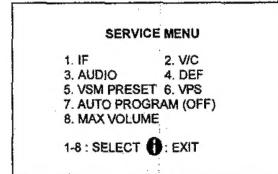
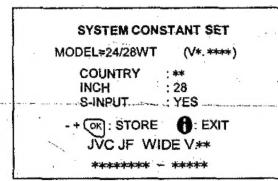

Fig.1
Fig.2
(1) Power off	Switch the power off and unplug the power cord from the outlet.
(2) Replace ICs.	Be sure to use memory ICs written with the initial data values.
(3) Power on	Plug the power cord into the outlet and switch the power on.
(4) Check and set SYSTEM CONSTANT SET:	<ol style="list-style-type: none"> 1) Press the INFORMATION key and the MUTING key of the REMOTE CONTROL UNIT simultaneously. 2) The SERVICE MENU screen of Fig. 1 will be displayed. 3) While the SERVICE MENU is displayed, press the INFORMATION key and MUTING key simultaneously, and the SYSTEM CONSTANT SET screen of Fig. 2 will be displayed. 4) Check the setting values of the SYSTEM CONSTANT SET of Table 1. If the value is different, select the setting item with the FUNCTION UP/DOWN key, and set the correct value with the FUNCTION +/- key. 5) Press the MENU key to memorize the setting value. 6) Press the INFORMATION key twice, and return to the normal screen.
(5) Setting of receive channels	Set the receive channel. For setting, refer to the OPERATING INSTRUCTIONS.
(6) User settings	Check the user setting values of Table 2, and if setting value is different, set the correct value. For setting, refer to the OPERATING INSTRUCTIONS.
(7) Setting of SERVICE MENU	Verify the setting items of the SERVICE MENU of Table 3, and reset where necessary. For setting, refer to the SERVICE ADJUSTMENTS.